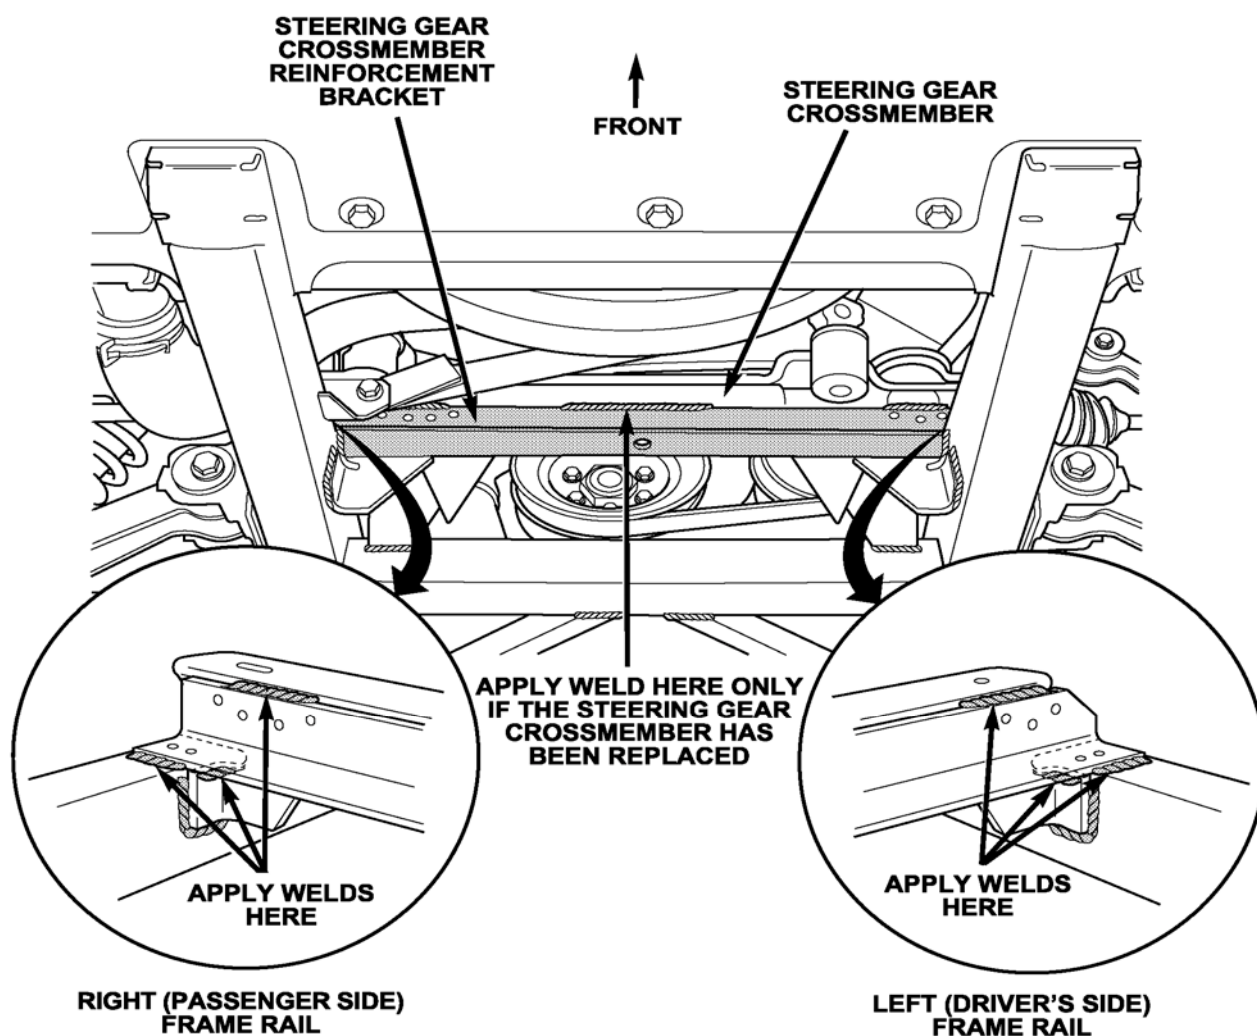

Figure 9
5. Place the steering gear reinforcement bracket into position, just in front of the steering gear crossmember and on top of the frame rails (Figure 9). The reinforcement bracket must be centered between the frame rails.
6. Mark all of the locations on the steering gear crossmember, frame rails and reinforcement bracket where welding will be performed with a grease pencil (Figure 9).
12. Weld the reinforcement bracket to the frame rails and steering gear crossmember as shown in Figure 9.
**NOTE: Vehicles that have had a new steering gear crossmember installed must have an extra weld applied as shown in Figure 9.**